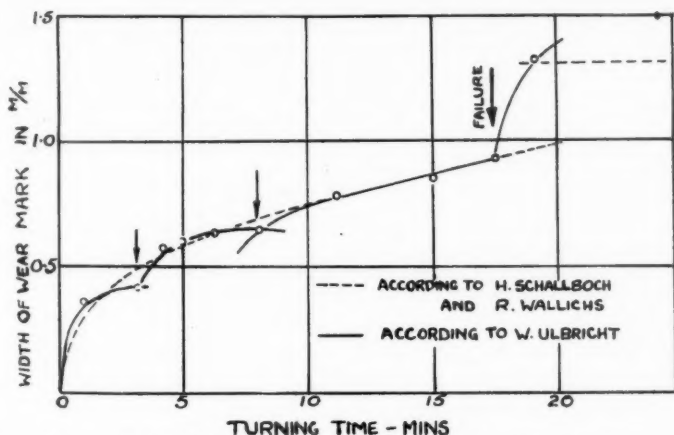

Fig. 29. Relationship between Width of Wear Mark and Turning Time.
This hypothesis may be connected with the evidence of Ulbricht²⁵ that the relationship between the width of the wear marks (B) of a turning tool and turning time (T) is a cascade as shown in Fig. 29 and not a continuous parabola as previously considered, since cutting speed, tool wear and the coefficient of friction are intimately connected with the action of the swarf passing over the face of the cutting tool.